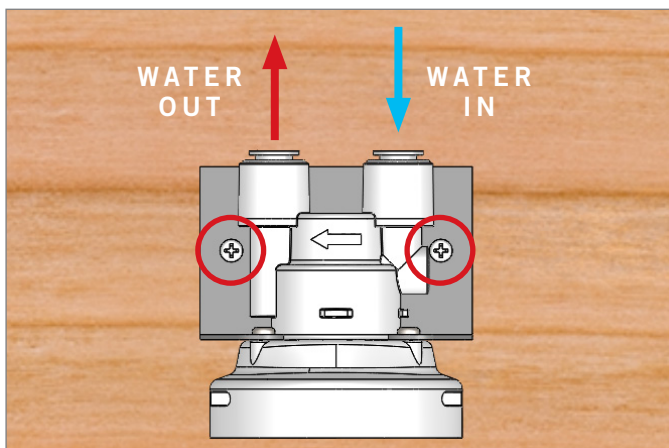

FIG. 3. Water filter head inlet, outlet, and bracket screw locations. Top-down view shown.
5. Connect the water filter head to the water supply. (Tubing NOT provided by TRUE, see "Water Supply" on page 37). See fig. 3.
7. Align the filter with the filter head's teeth. See fig. 3.